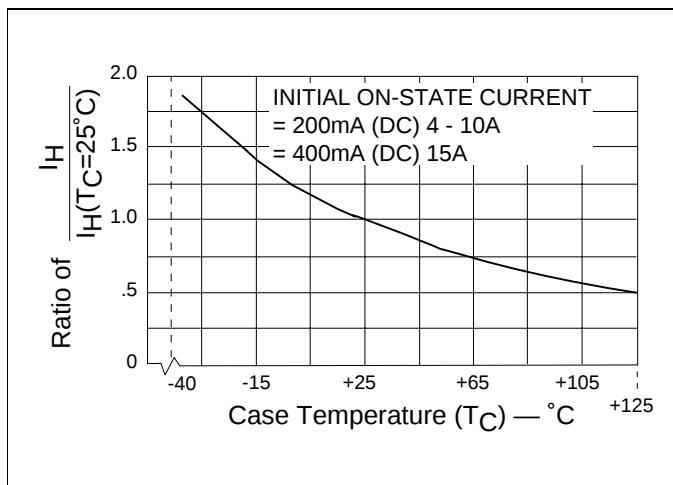

Figure 3.1 Normalized DC Holding Current vs Case Temperature
- (1) For either polarity of MT2 with reference to MT1.
- (2) See Figure 3.1 for I_H vs T_C .